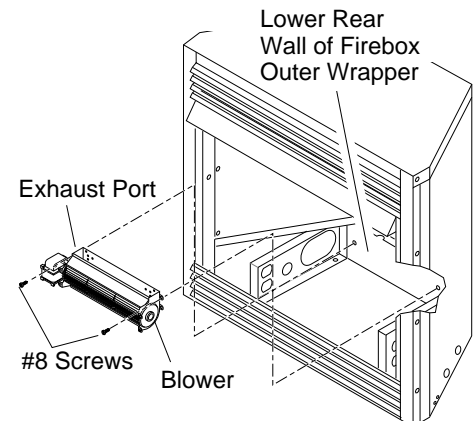

Figure 14 - Mounting Blower to Firebox
2. Place the blower against lower rear wall of firebox outer wrapper with the exhaust port directed upward. Align the holes in top mounting tabs of blower with holes in wall of wrapper (see Figure 14). Using two #8 screws provided, mount blower and tighten screws firmly.